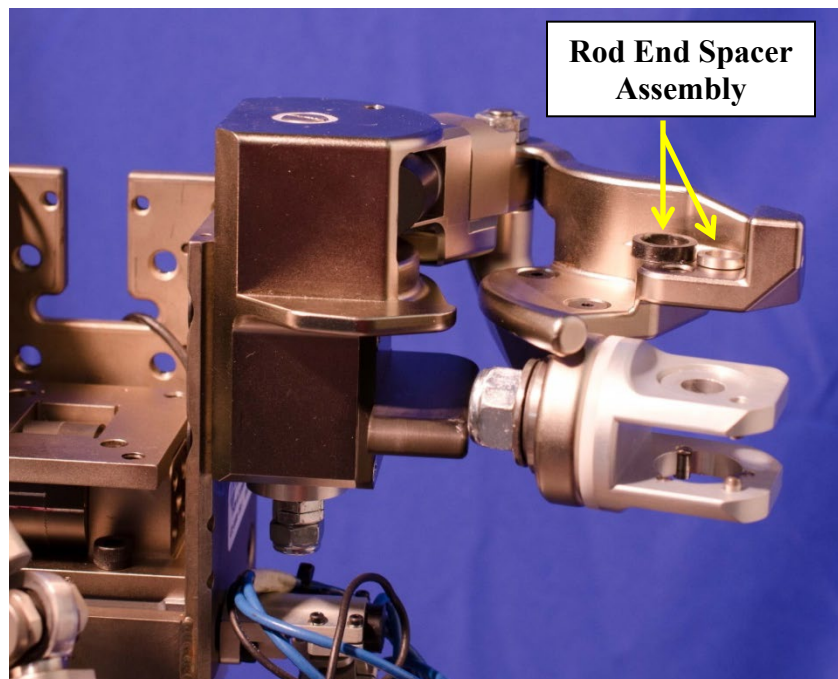
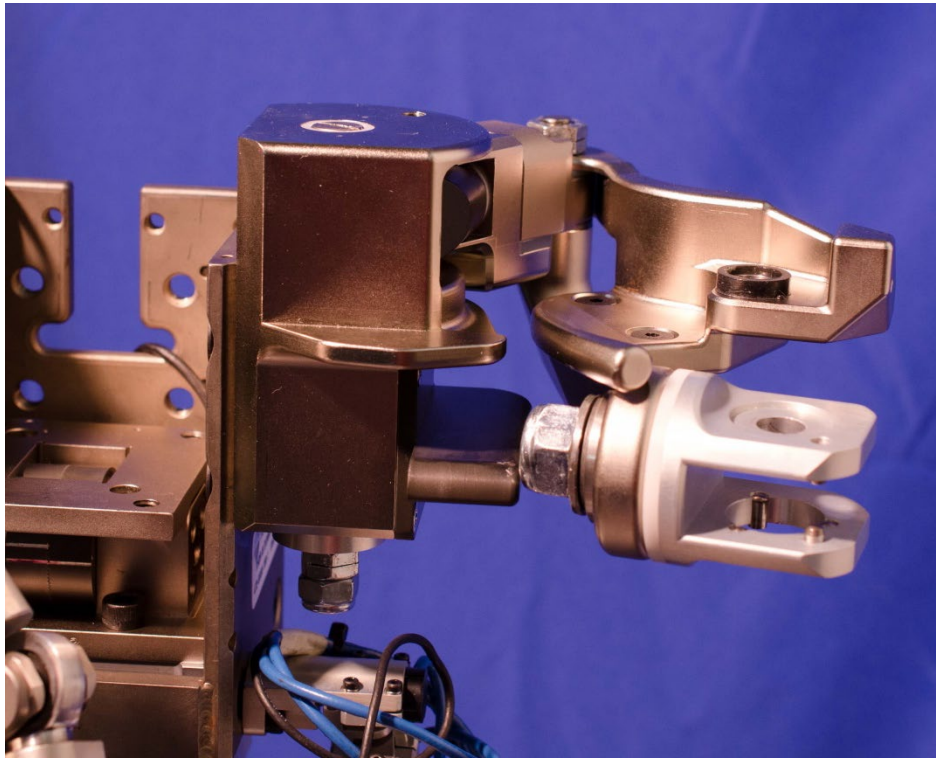

Figure 6-36. Placement of rod end spacer assembly on shoulder
Figure 6-37. Rod end spacer installed on shoulder
6.2.2.29 Place the Rod End Spacer Assembly (472-3880) onto the Left Hand Scapula (472-3830-1, Figure 7-3) (Figure 6-36 and Figure 6-37).